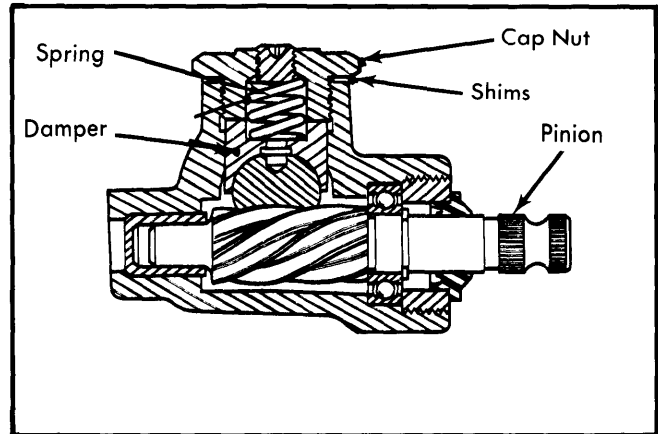

Fig. 4 Cross Sectional View of TR7 Pinion with Housing and Rack Damper (Spitfire Similar)
- 6) Install rack damper, shims, spring and cap nut. Check rack side play (90° to shaft axis) is within .004-.008" (.1-.2 mm). Adjust as required by adding or subtracting shims (Fig. 4), then reconnect ground strap (if removed).